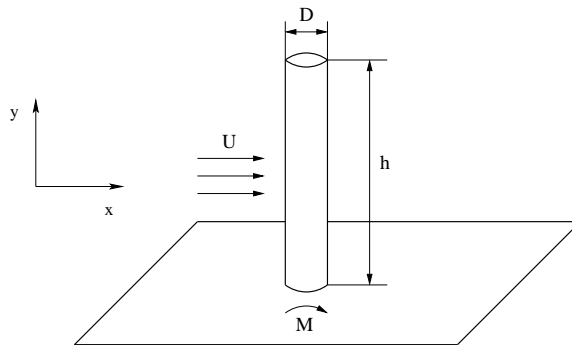

Figure 1: Flow past a chimney.
- a Nondimensionalize this equation for the problem sketched in Figure 1. *Hint:* The body is completely immersed in the flow.